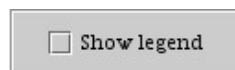

Figure 16. Show/hide the Timeline legend.
**Step 1:** Select the "Show Legend" checkbox to show the legend (Figure 16) or deselect the "Show Legend" checkbox to hide the legend.